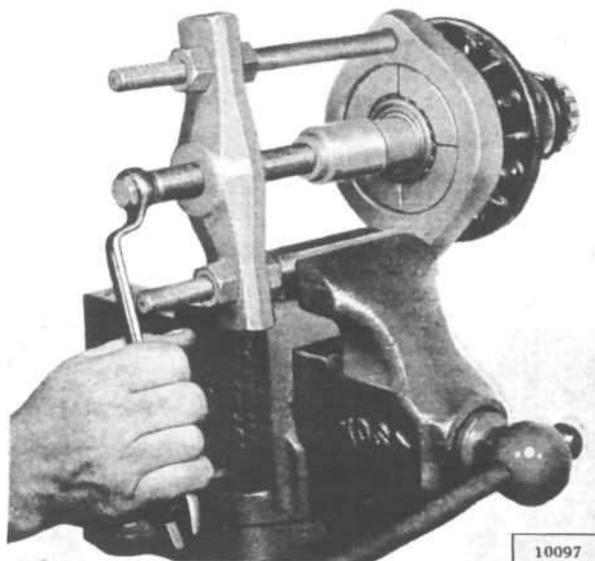

FIG. 241—BEARING PULLER
To remove the bearing from an axle shaft use combination bearing puller, Tool No. W-104 shown in Fig. 241.
- d. If the differential carrier bearings are to be removed, use bearing puller W-104 as shown in Fig. 241.